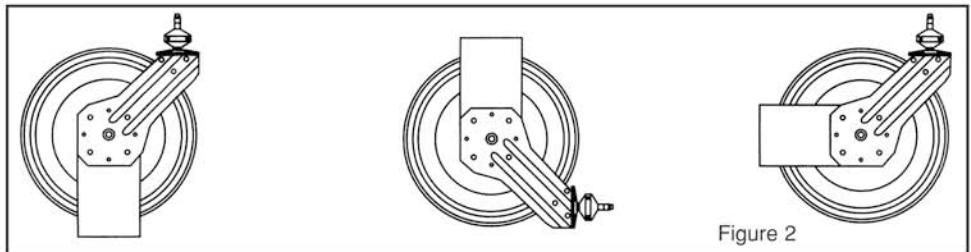

Figure 2
2. This reel comes with an adjustable Guide Arm which can be angled according to the location the reel is mounted (see figure 2).
- b. Remove the bolts (4) connecting the Guide Arm and Support Post
- c. Adjust the Guide Arm to the proper position, insert bolts (4) and tighten.